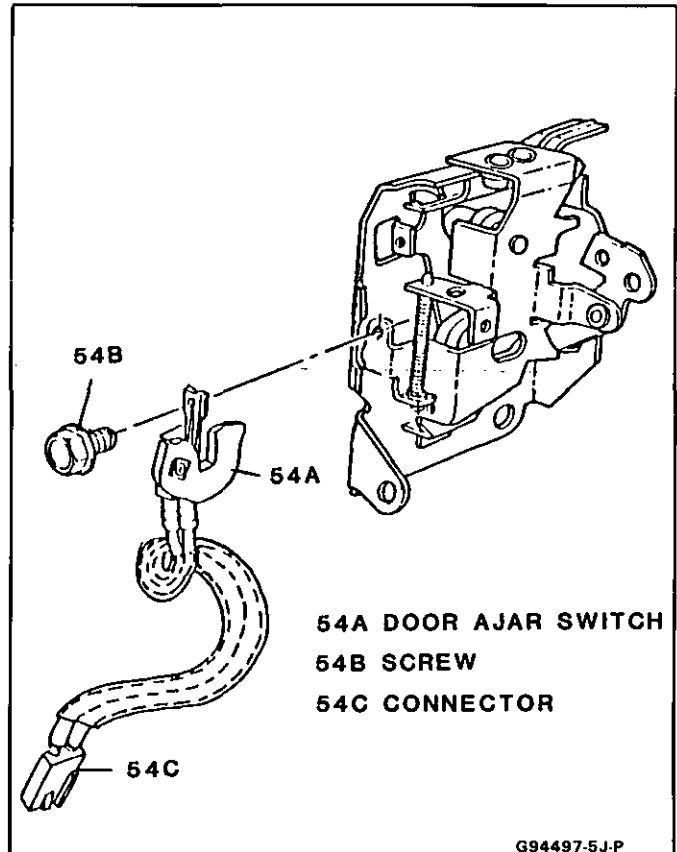
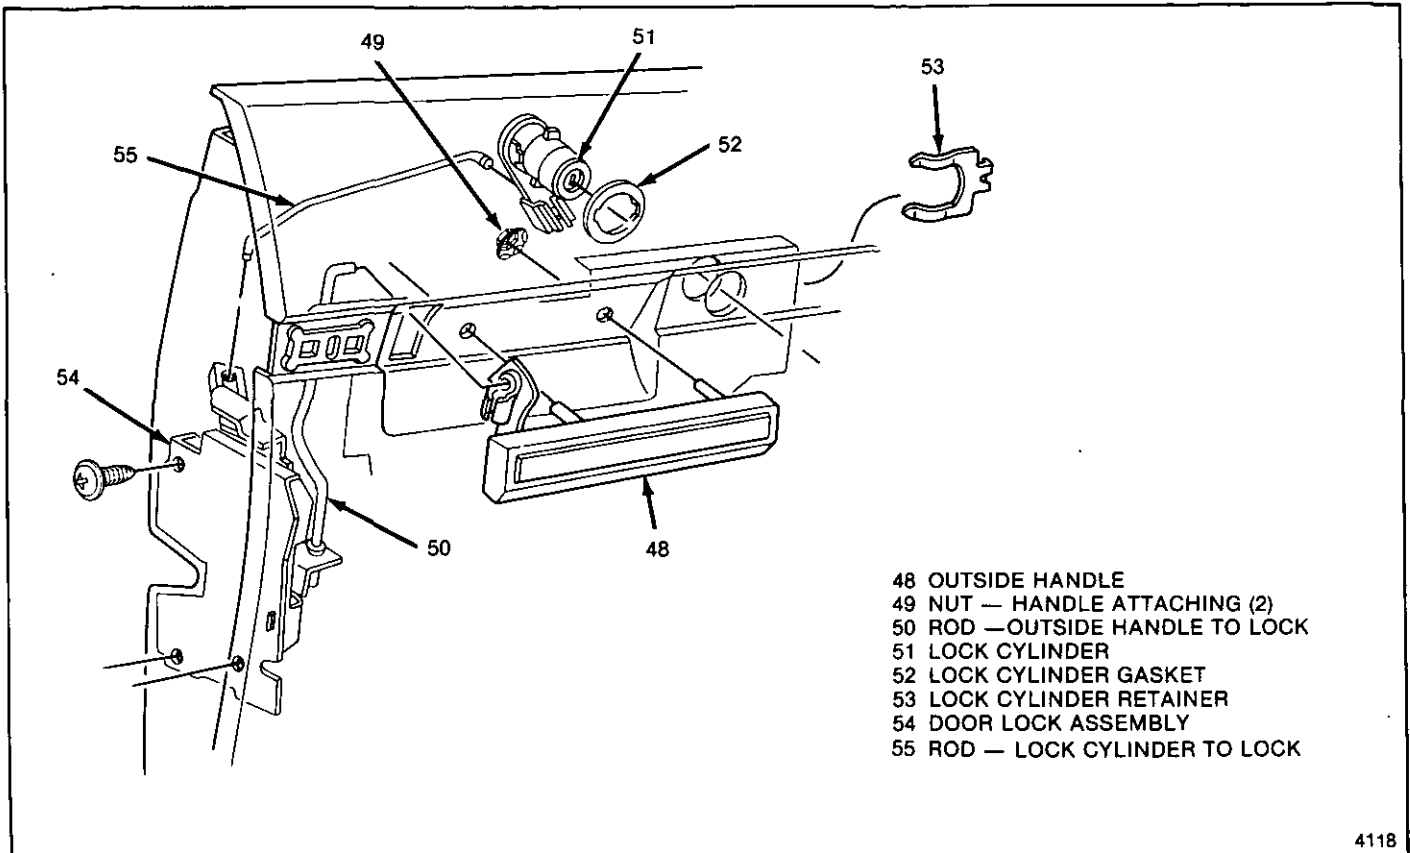

Fig. 5-26 - Installing Door Ajar Switch
Fig. 5-27-Door Locking Mechanism
**↔ Remove or Disconnect (Figure 5-27)**
4. Door ajar switch wire connector from main harness (54C, Fig. 5-26)
5. Lock assembly screws – lower assembly to disengage outside handle lock rod (50)
6. Lock assembly (54)
**↔ Install or Connect (Figure 5-27)**
2. Lock assembly (54)
3. Rods at lock assembly (50)
5. Door ajar switch wire connector to main harness (54C, Fig. 5-26)
**DOOR AJAR SWITCH****↔ Remove or Disconnect (Fig. 5-26)**
**Lock Cylinder Assembly****↔ Remove or Disconnect (Figure 5-27)**
1. Lock cylinder assembly (51)
2. Cylinder assembly retainer (53)